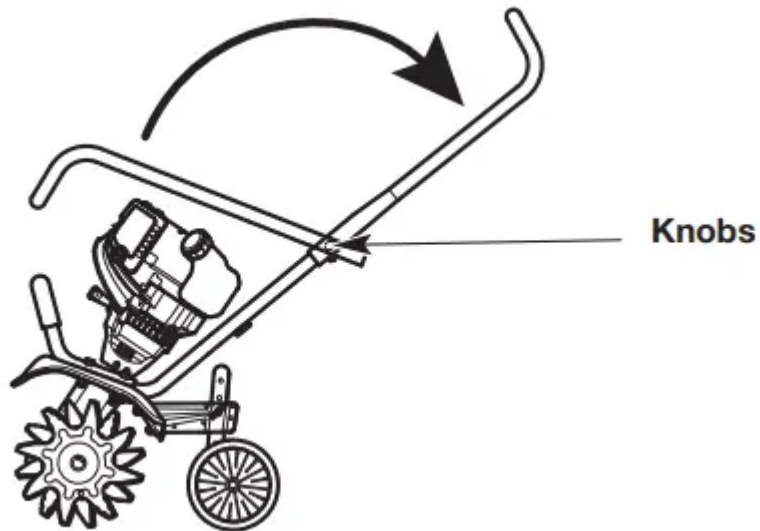
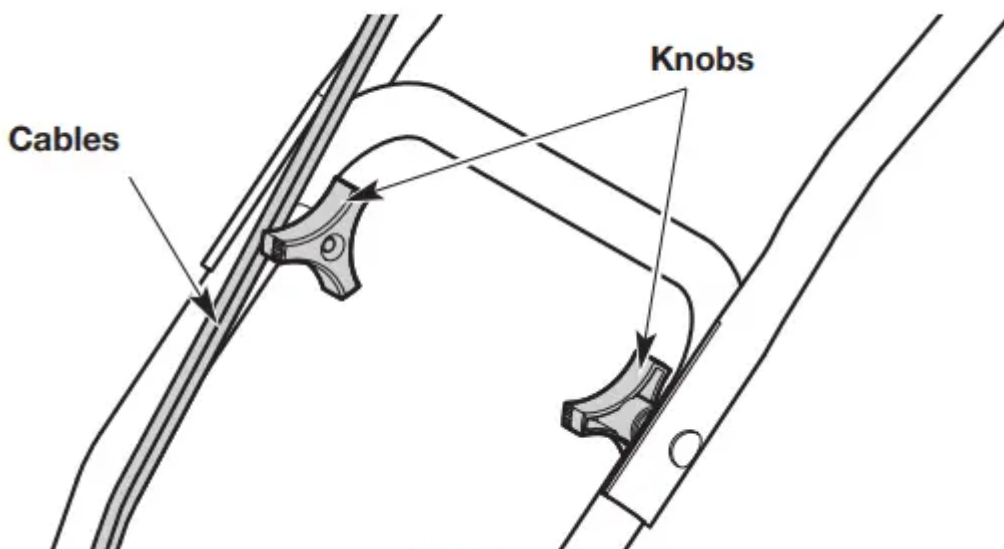

Fig. 3
Fig. 4
2. Loosen the knobs (Fig. 4).
3. Swing the handlebar up into the operating position (Fig. 3). NOTE: Take care not to pinch the cables when positioning the handlebar (Fig. 4).